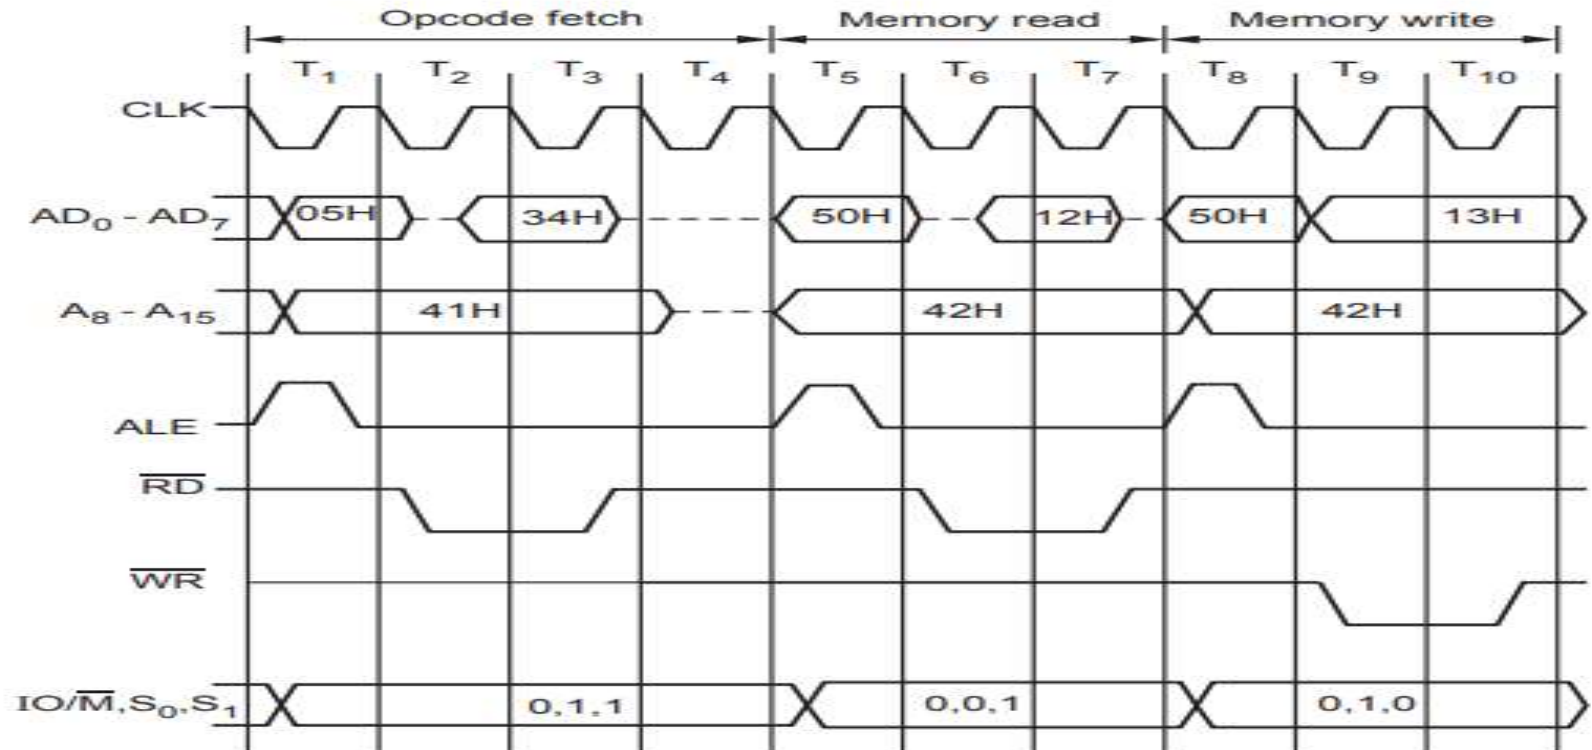

**Fig. 2.6.6 Timing Diagram for STA 526A H**
- The opcode of the STA instruction is said to be 32H. It is fetched from the memory 41FFH (see Fig. 2.6.6). - of machine cycle
- Read the higher order memory address (52) - Memory Read Machine Cycle